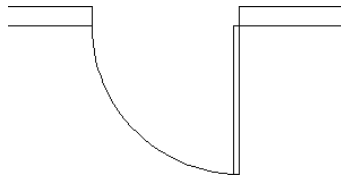

FIGURE 7.12: The result of a zoom window
2. Use Zoom Window to define a window that encloses the bathroom door. The view changes to a close-up of the area enclosed in your window (see Figure 7.12).